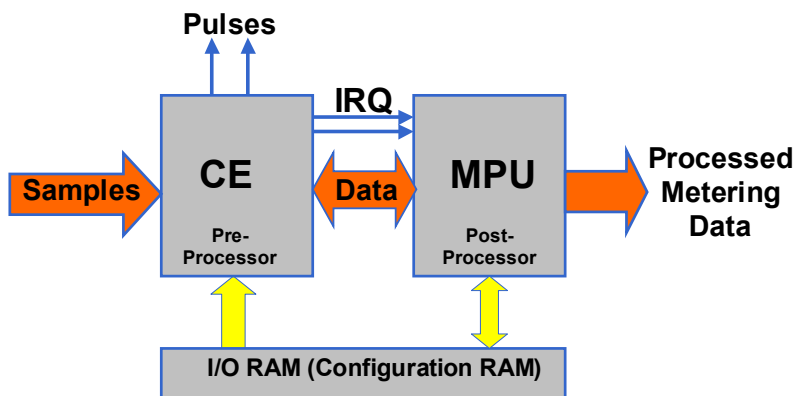

Figure 26: MPU/CE Data Flow
The data flow between CE and MPU is shown in Figure 26. In a typical application, the 32-bit compute engine (CE) sequentially processes the samples from the voltage inputs on pins IA, VA, IB, and VB, performing calculations to measure active power (Wh), reactive power (VARh), A^2h , and V^2h for four-quadrant metering. These measurements are then accessed by the MPU, processed further and output using the peripheral devices available to the MPU.